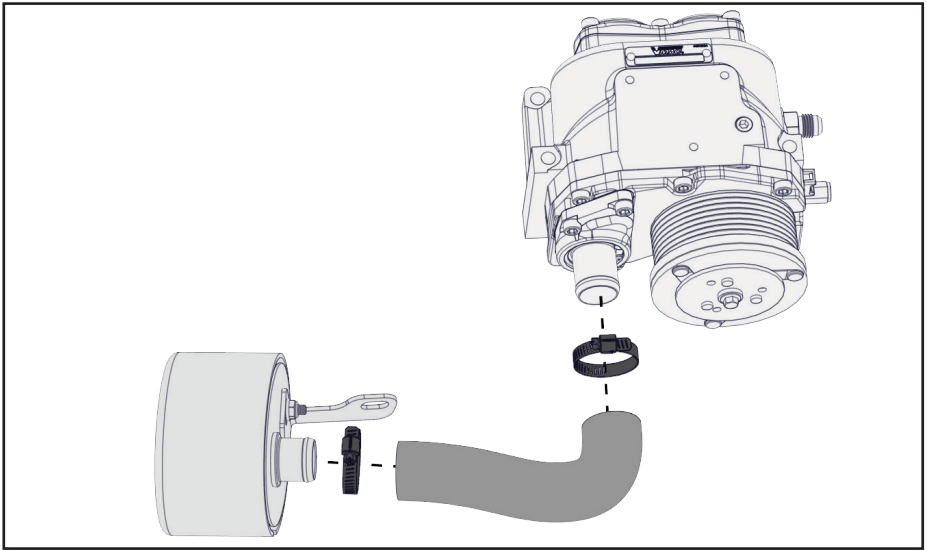

Figure 22 — Installing the compressor air filter
- Install the supplied intake tube (if using A900022 kit, install the intake hose supplied with that adaptor kit) onto the air filter assembly and the compressor inlet, and secure with the supplied hose clamps (Figure 21, Figure 22).